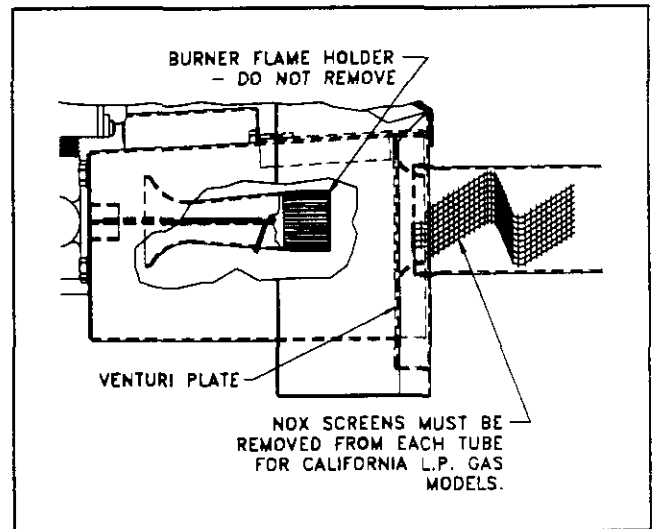

Figure 29. California NOX Screen Removal.
**WARNING:** Propane (LP) gas installations do not have gas meters to double check input rate. Measure manifold pressure adjustment with an accurate manometer. Failure to accurately adjust pressure could cause heat exchanger failure, asphyxiation, fire or explosion, resulting in damage, injury or death.
2. Gas supply pressure must be between 11 and 14 inches W.C. for propane (LP) gas. See Section 15, "Gas Supply Pressure and Pilot Adjustment."
**WARNING:** Do not set Propane (LP) manifold pressure at 11.0 inches W.C. It could cause heat exchanger failure.
NOTE: NOX reducing screens must be removed from each tube of California NOX furnaces when converting to propane (LP) gas. See Figure 29.